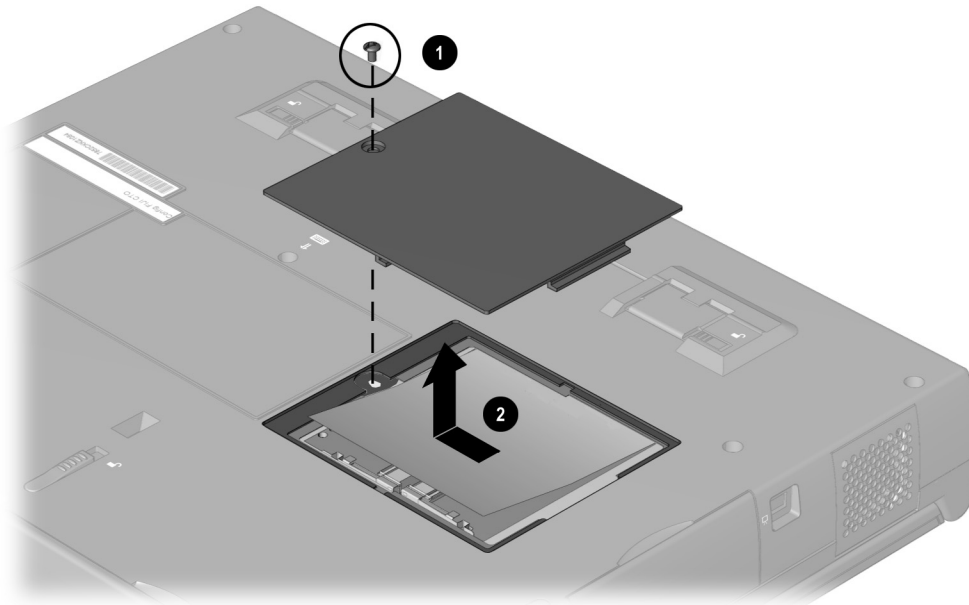

Figure 5-24. Removing the Memory Expansion Compartment Cover
4. Remove the screw that secures the memory expansion compartment cover to the computer ❶ (Figure 5-24).